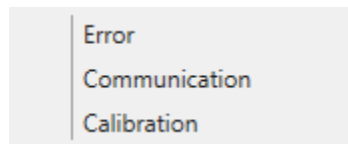

Figure 11. Tools Menu – Open Logfile
- Open Logfile: the available Error, Communication, or Calibration log files can be opened (Figure 11).